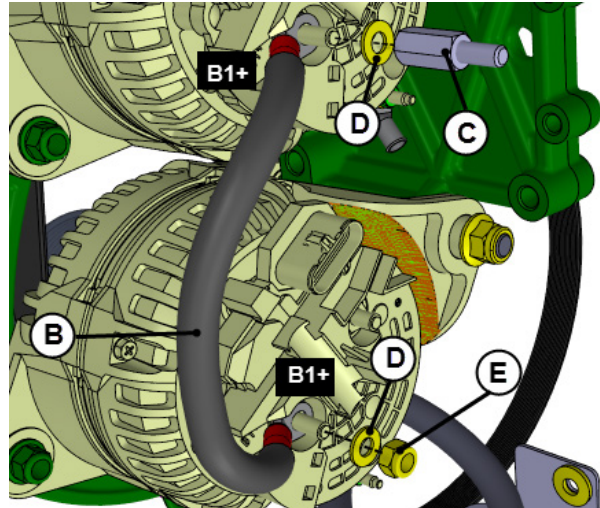

FIGURE 10
8. Reinstall appropriate jumper cable **B** (i.e. rev.C) with appropriate stud adapter. Refer to **FIGURE 10**.